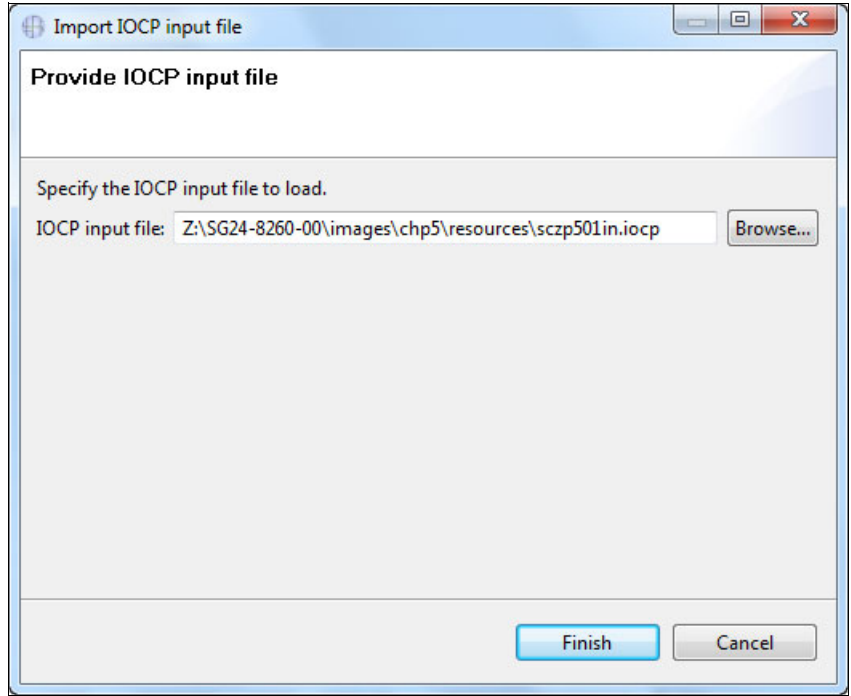

Figure 6-69 CMT - Specifying the IOCP file for import
2. Select the IOCP file on your workstation to import into the CHPID Mapping Tool and click **Finish** (Figure 6-69).